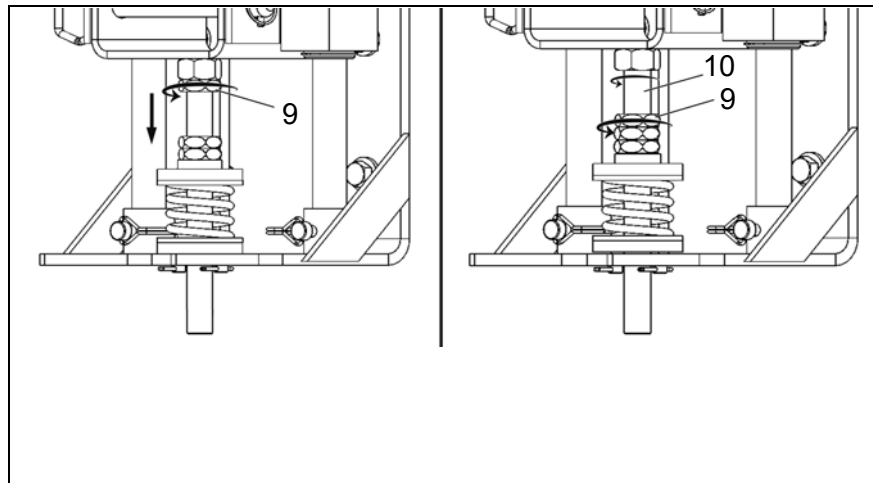

Fig. 3
1. Loosen the locknut SW32 (9, Fig. 3 left) clockwise and screw it up to the hex nuts.
2. Unscrew the threaded rod (10, Fig. 3 right) with the locknut (9, Fig. 3 right) clockwise.